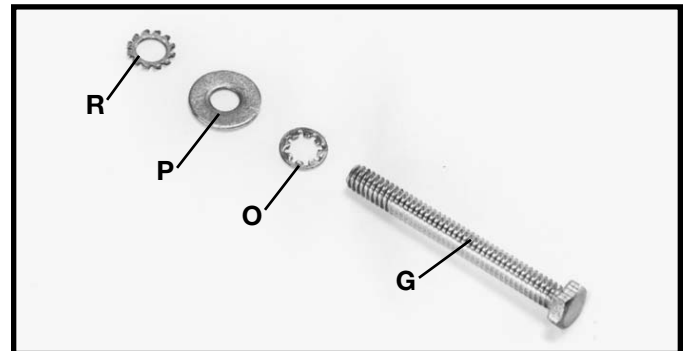

Fig. 10
5. Locate the 1/4-20x2 1/2" hex head screw (G) Fig. 10, and assemble the 1/4" internal tooth lockwasher (O), M6.4 flat washer (P) and 1/4" external tooth lockwasher (R) onto screw (G).